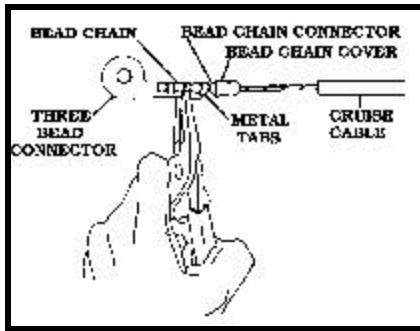

Figure 17
2. Attach the **BEAD CHAIN** to the **THREE BEAD CONNECTOR**. Secure beads by folding the metal tabs. **Figure 17**